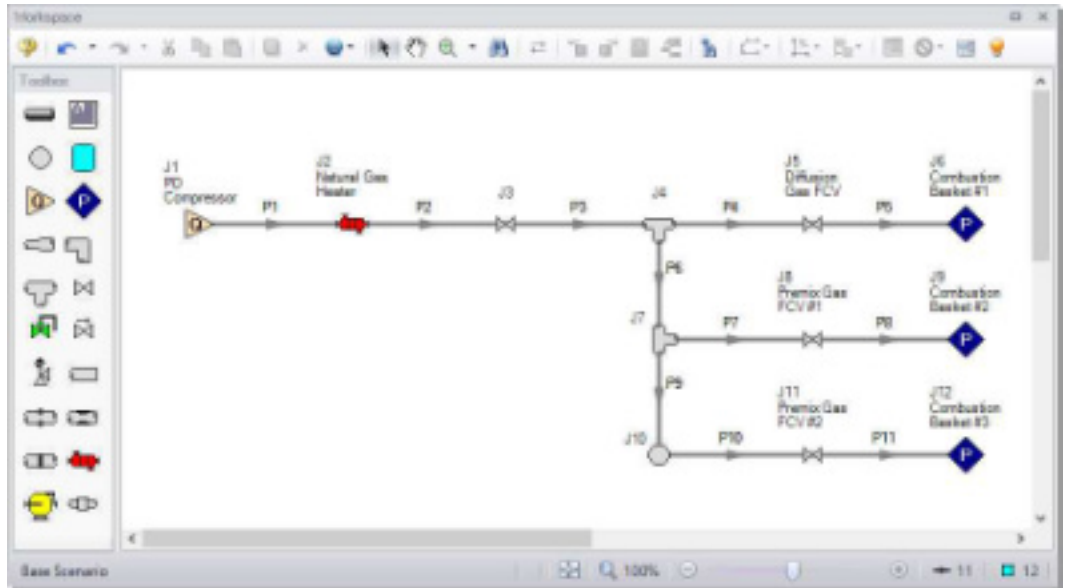

Figure 3.1 Layout of the system on the Workspace
- In the Workspace window, assemble the model as shown in Figure 3.1.